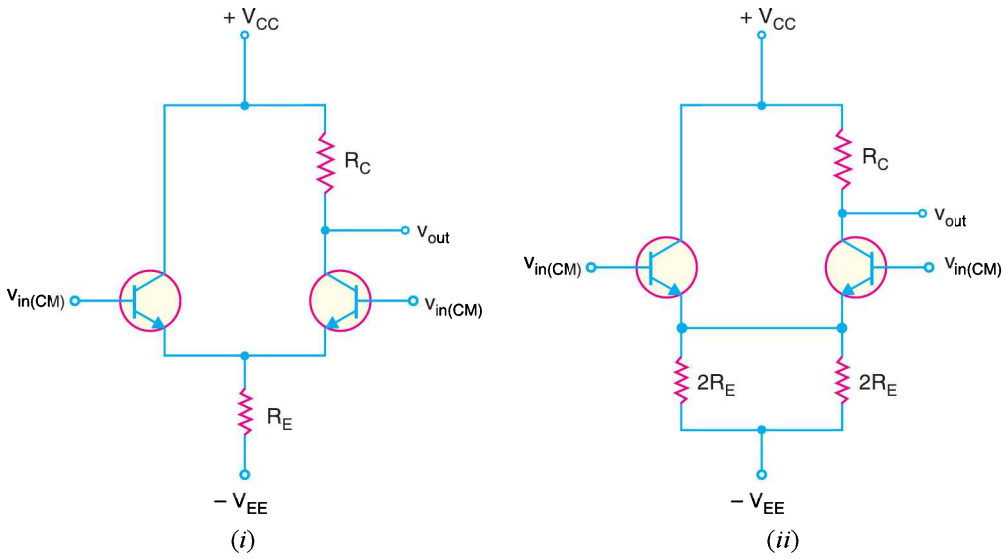
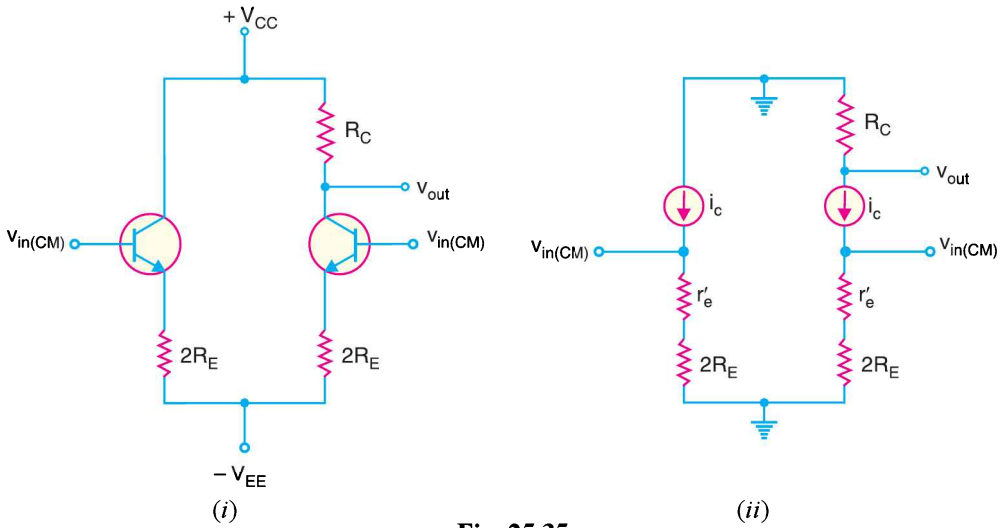

Fig. 25.34
Fig. 25.35
The common-mode signals are equal in amplitude and have the same phase. Fig. 25.34(i) shows the common-mode operation of a differential amplifier (DA). Note that the same input voltage, $v_{in(CM)}$ is being applied to each base. Ideally, there is no a.c. output voltage with a common-mode input signal. It is because a differential amplifier is designed to respond to *the difference between two input signals*. If there is no difference between the inputs, the output of DA is zero. In practice, the two halves of the differential amplifier are never completely balanced and there is a very small a.c. output voltage for the common-mode signal.
The circuit shown in Fig. 25.34(i) can be redrawn as shown in Fig. 25.34(ii). In this equivalent circuit, the two parallel resistances of $2R_E$ produce an equivalent resistance of R_E . Therefore, this equivalent circuit will not affect the output voltage. Assuming identical transistors, the two emitter currents will be equal and produce the same voltage across emitter resistors. Therefore, there is no current through the wire between the emitters. We can remove this wire and the circuit becomes as shown in Fig. 25.35 (i).
A.C. equivalent circuit. To get the a.c. equivalent circuit, we can reduce both supply voltages to zero *i.e.*, we ground each supply point. Replacing the transistors by their a.c. equivalent circuits, we get a.c. equivalent circuit of differential amplifier for common-mode operation as shown in Fig. 25.35 (ii). We can derive the voltage gain of an *unbypassed CE circuit. Here we will use $2R_E$ in place of R_E .